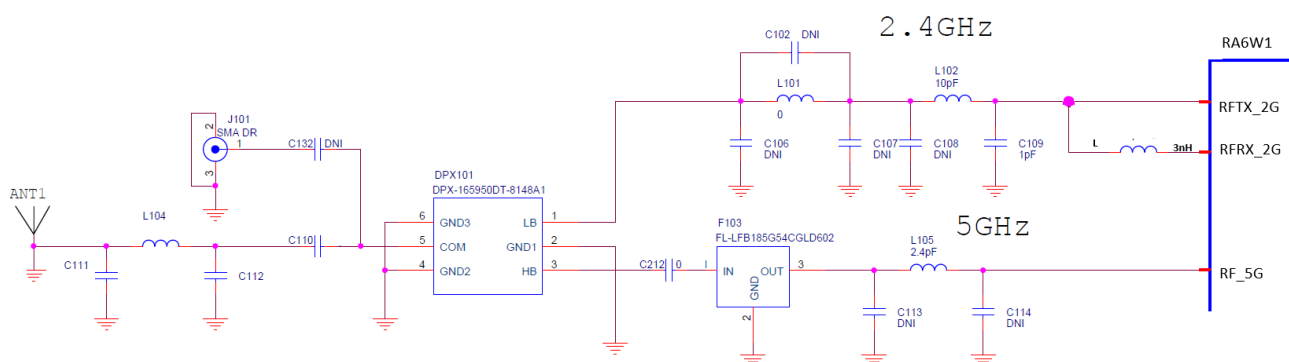

Figure 17. RFIO port and RF circuitry as applied on RA6W1 development board
2.4-GHz port consists of two pins, RFTX_2G and RFRX_2G which are combined through an LC circuit, where $L=3\text{ nH}$ and $C=1\text{ pF}$, both 0201. LC circuit must be placed close to the chip. Figure 17 shows the RF output circuitry with an external diplexer to combine the 2.4-GHz and 5-GHz transmit/receive paths and a band pass filter (BPF) to ensure the rejection of out-of-band emissions on 5 GHz.